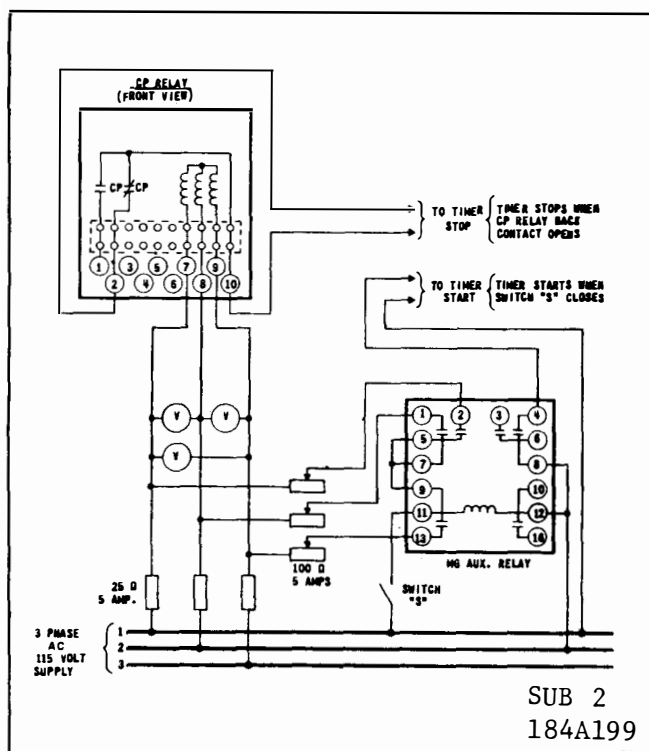

Fig. 8. Diagram of Test Connection for checking the Undervoltage Time Curves of the Type CP Relay.
- 3. Time Curve** — The time curve can be checked by the use of the circuits of Figs. 8 and 9.
3. Time Curve Calibration — Install the permanent magnet and connect the relay as per the circuit of Fig. 8.